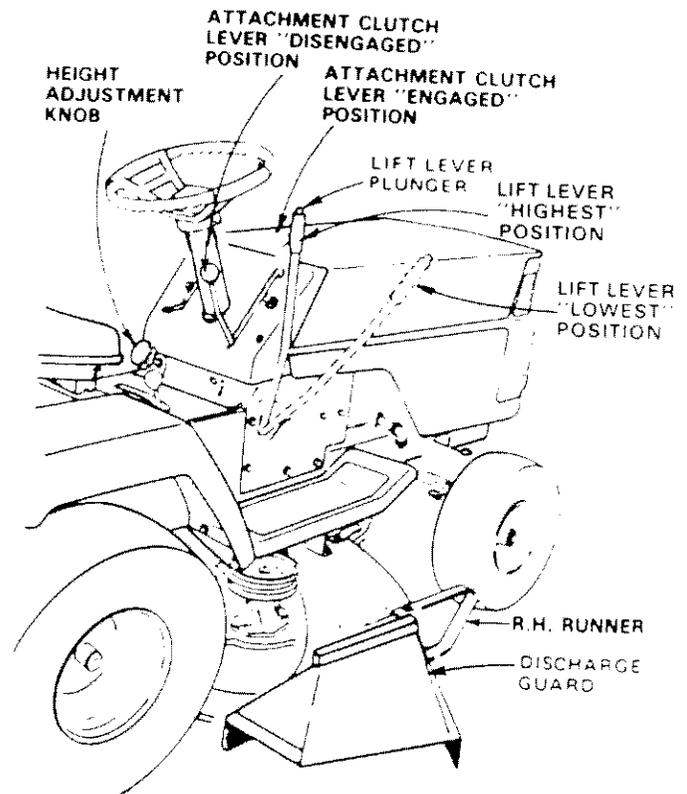

FIGURE 8
- a. Move the attachment lift lever to the high position and adjust height of cut to mid range. See Fig. 8.
- f. Move throttle lever to half throttle and slowly move attachment clutch lever to engaged position, Fig. 8.
- b. Use the runner on the R.H. side as a guide; the blade cuts approximately an inch outside the runner (Fig. 8).